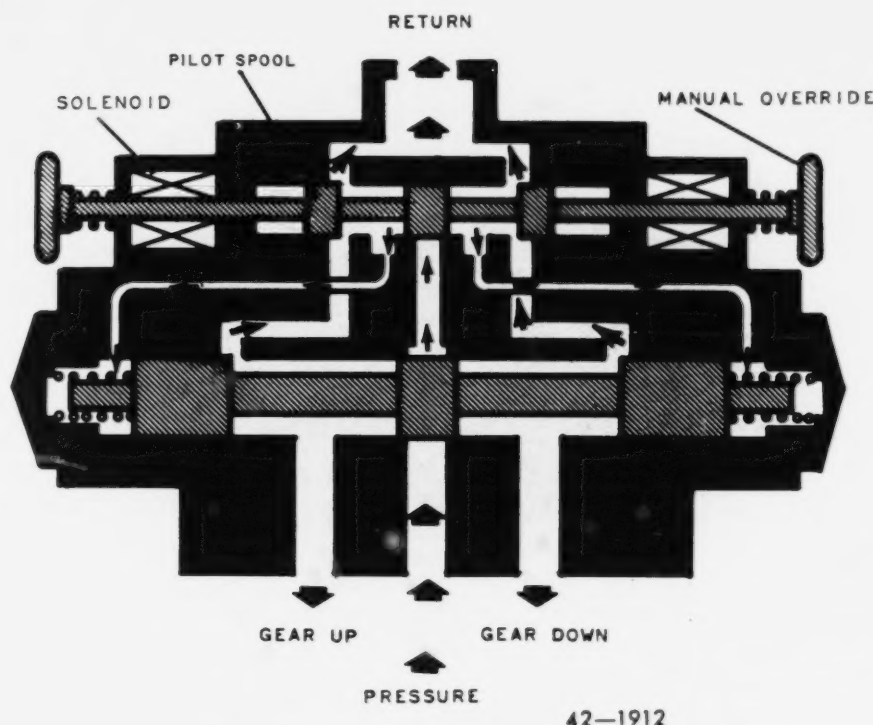

Figure 4-8. Solenoid-operated selector valve with manual override.
Solenoid-Operated Selector Valve With Manual Override. As previously explained, there are selector valves that are manually operated, and there are others that are electrically operated. The valve we will talk about next has both features incorporated into it, solenoids for normal operation and a manual operation for emergency use. The valve, shown in figure 4-8, is in the neutral position with neither solenoid energized, and the alternating lines (gear up and gear down) are connected to the return line. Notice that the pressure can flow past the control spool to the pilot spool. Springs on both sides of the pilot spool and control spool keep the valve in the neutral position. If the left-hand solenoid is energized, it causes the pilot spool to be drawn toward the energized solenoid. This shifts the pilot spool to the left and lets system pressure enter the right side of the control spool. As the control spool is shifted, it blocks off the return line and opens up the pressure line to go out the gear down line. Any fluid in the gear up alternating line will be routed through the valve to the return line. As long as the left solenoid is energized, the valve will stay in this position. When electrical power is dropped, the spings position the selector valve back
Using figure 4-8, state the position of various components in the selected selector valves.
1. If the left solenoid in figure 4-8 is energized, in which direction will the pilot spool move?